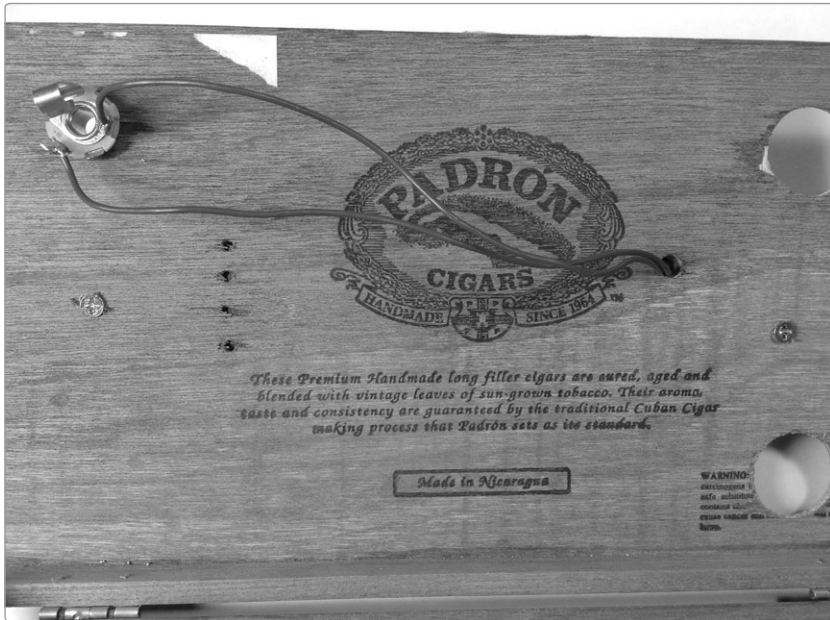

FIGURE 10-16: The jack and pickup leads in place inside the cigar box (you can also see the string holes I drilled through my soundboard)
Step 15 Once the pickup is securely mounted and any glue is dry, mount the jack in its hole in the uke body and solder its leads (see Figure 10-16). Hook this to your amp, power up, and confirm that the pickup still works.